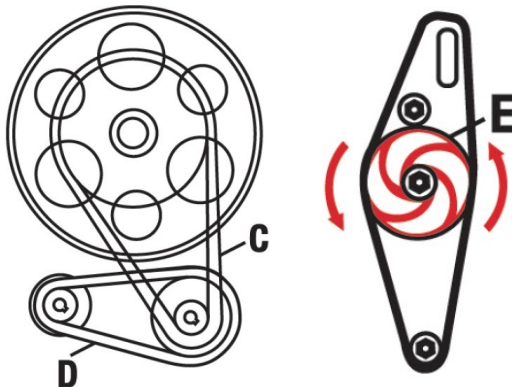

Figure 8-3 – Belt Position for Metal
CAUTION Before starting the machine, make sure the belt C & D are installed as shown as Figure 8-3
2. The disc (E) Figure 8-3 must spin during the operation.